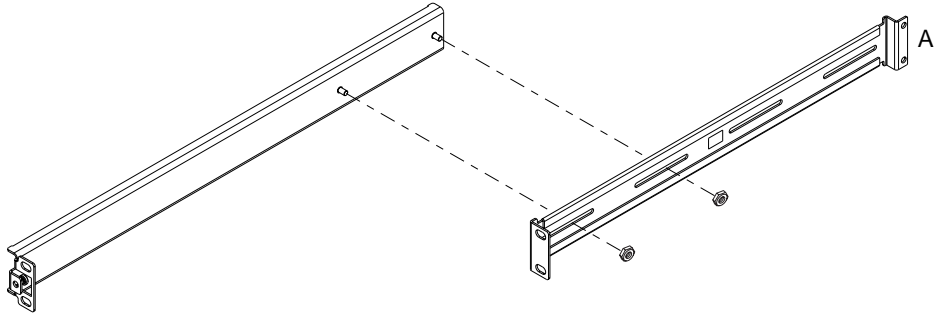

FIGURE 5-2 Slide Mounts for Sun 72-inch Expansion Rack
1. Position the two parts of the slide so that the double-angled ear (A) is to the rear.
2. Make sure that the front and rear mounting ears are the correct distance apart, and loosely secure the two parts together using the M4 nuts supplied (see FIGURE 5-2).